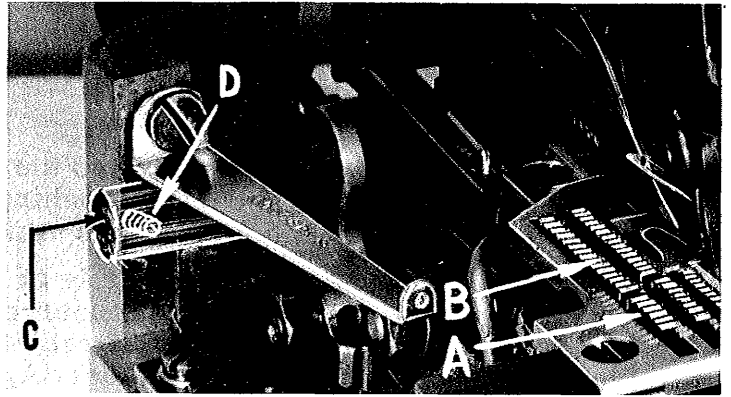

Fig. 13
Now assemble differential (front) feed dog (A, Fig. 13) if not already on machine. Assemble main (back) feed dog (B) and set both feeds so the top surfaces of the teeth all lie in the same plane. This can be checked by sighting across the teeth with a straight edge. Now assemble throat plate. Feed dogs should now be leveled with throatplate surface by rotating feed tilting adjusting pin (C). This pin raises or lowers the back end of both feed bars at the same time.